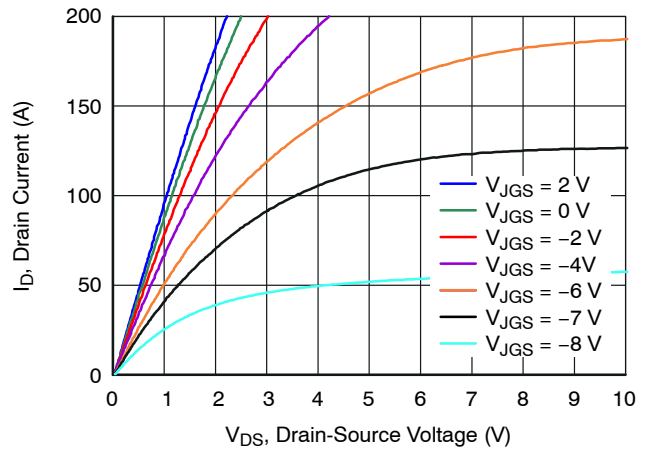

**Figure 23. Schematic of the Half-bridge Mode Switching Test Circuit with ClampDRIVE Method.**
5. Measured with the half-bridge mode switching test circuit in Figure 23.